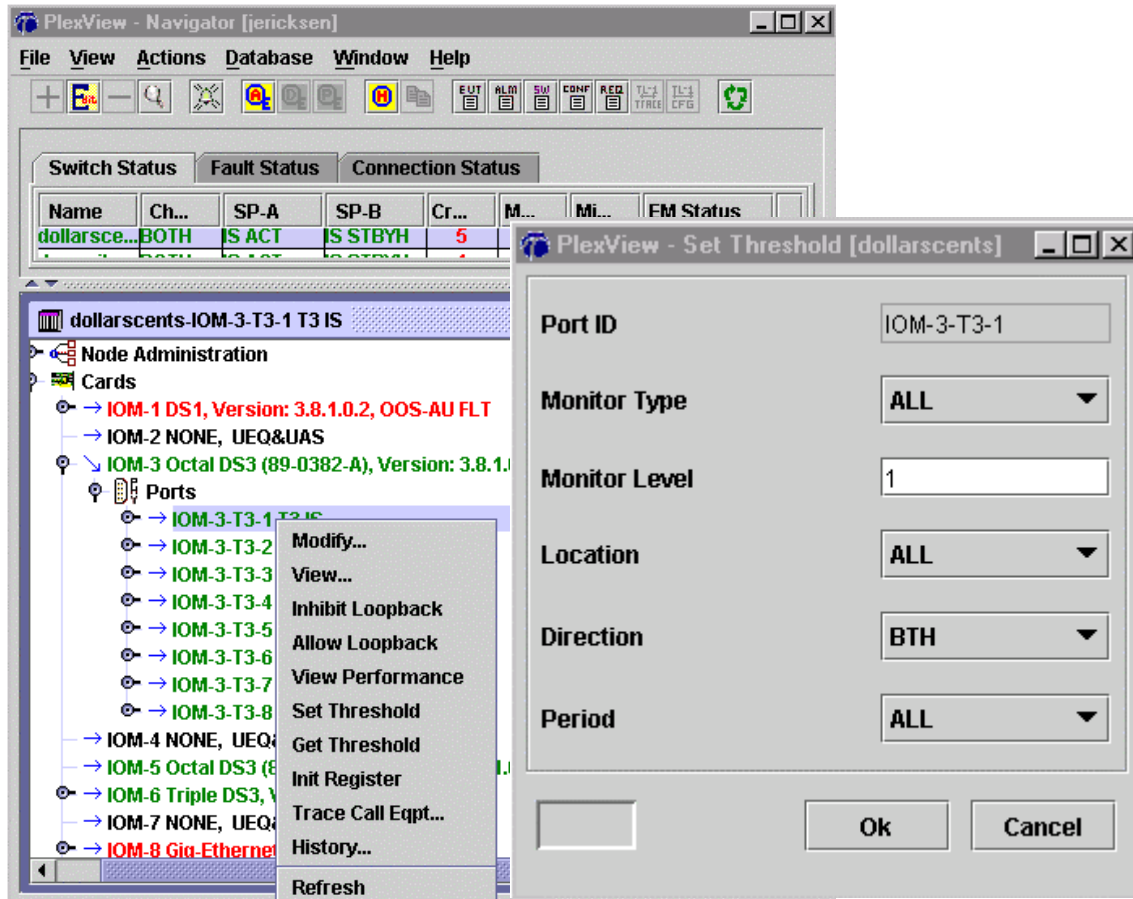

Figure 9. Set T3 PM Thresholds
20. Initialize thresholds for T3 monitored data. Double-click *Switch*, *Switch name*, *Cards*, desired *IOM*, and *Ports*. Right-click the desired port and select *Set Threshold*. Make changes if necessary and then click *Ok*. Reference **DLP-538** for detailed information for the command. See Figure 9.